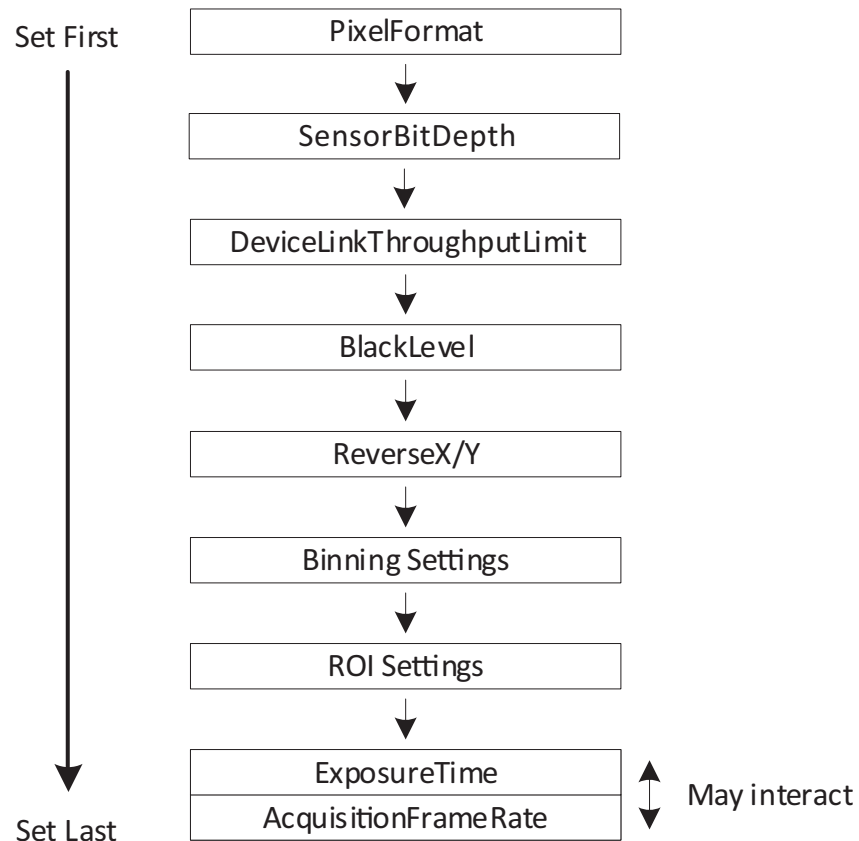

Figure 118: Interdependencies between features
The conversion between time and clock cycles affects control values. Features for pixel format, bandwidth, ROI, exposure time, and triggering are related to each other. Changing values for one feature can change values for another feature. For example, frame rates can be reduced when `PixelFormat` is changed subsequently. Figure 118 shows the interdependencies.
- To avoid readjustments, apply settings in the order shown in Figure 118.